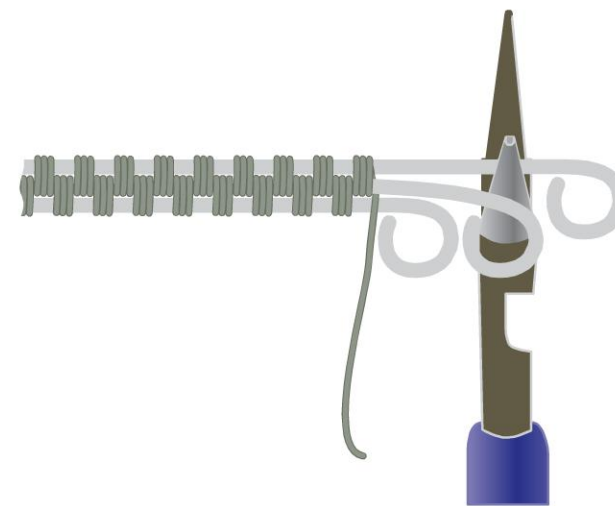

figure 5
- 7 Use chain-nose pliers to separate the three frame wires. Insert the end of the pliers between Frame Wires 2 and 3, then slide the pliers toward the weave (Figure 5). This can also be done by hand—just gently pull the frame wire ends apart.